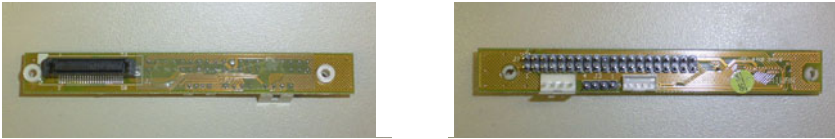

Figure 2.8: Converter for slim-type optical disk drive
4. To install the slim-type optical disk drive, please connect the small converter (see Figure 2.8) provided in the accessory box to the rear of the optical disk drive and fasten it by the two screws provided.